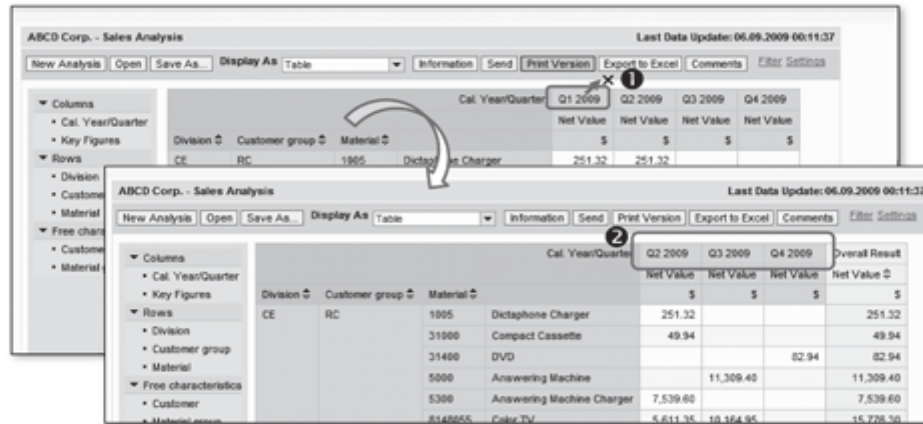

Figure 10.51 Navigation: Exclude Characteristic Value
- ▶ **Exclude characteristic value:** In the example shown in Figure 10.51, if the analyst doesn't want the values for Cal. Year/Quarter = Q1 2009 to be displayed in the analysis, he can remove this specific characteristic value by dragging the Q1 2009 characteristic value out of the layout (❶ of Figure 10.51). This puts an exclusion filter on the Cal. Year/Quarter characteristic, and the query result is modified according to this exclusion (❷).